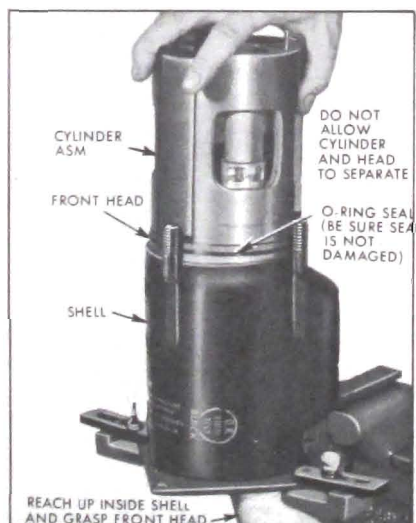

Figure 11-146—Inserting Cylinder Assembly in Shell
9. Coat the inside machined surfaces of shell with clean 525 viscosity compressor oil. Line up oil sump with oil intake tube hole and lower mechanism into shell. Extreme care must be used to prevent large "O" ring seal from being damaged. Maintain this alignment when lowering mechanism into place. See Figure 11-146.